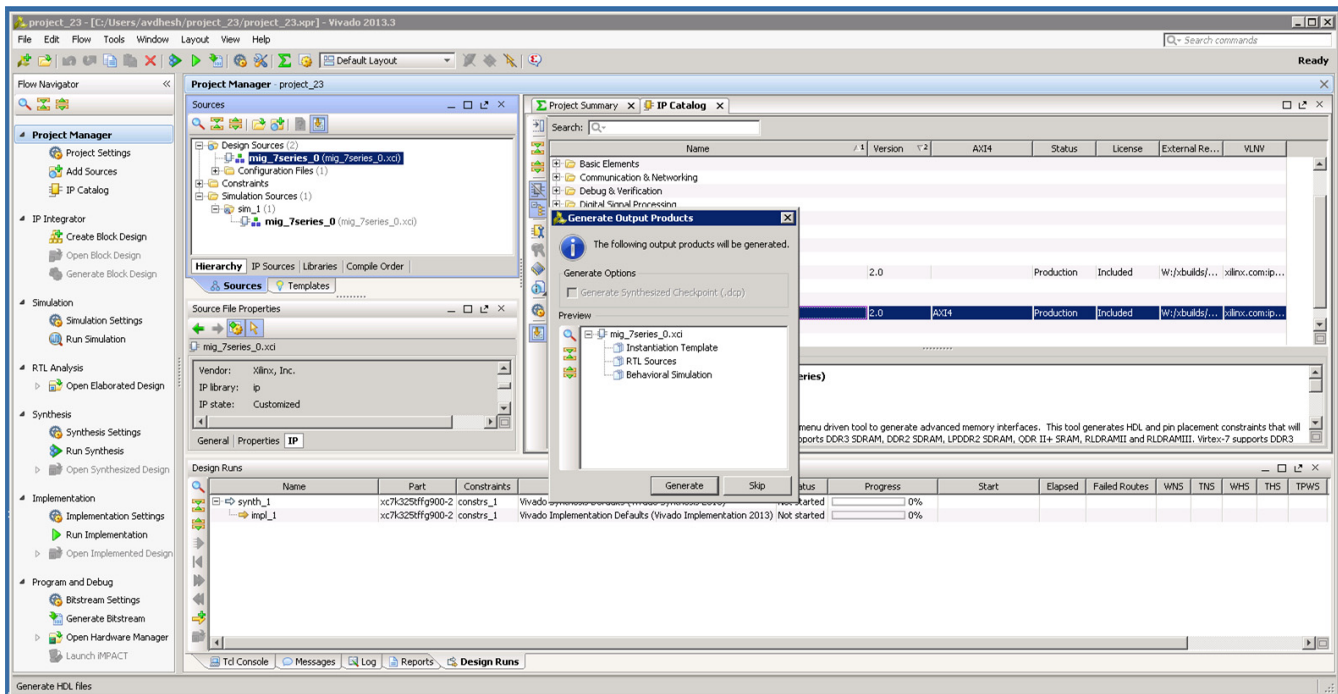

Figure 1-34: Generate Window
7. Clicking the **Generate Output Products** option brings up the Manage Outputs window (Figure 1-34).